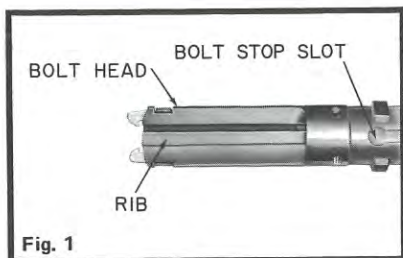

Fig. 1
**TO PUT BOLT IN RIFLE** — Align bolt stop slot on bolt body (Fig. 1) with rib on bottom (flat) of bolt head. Rotate and hold safety (Fig. 3) completely forward.